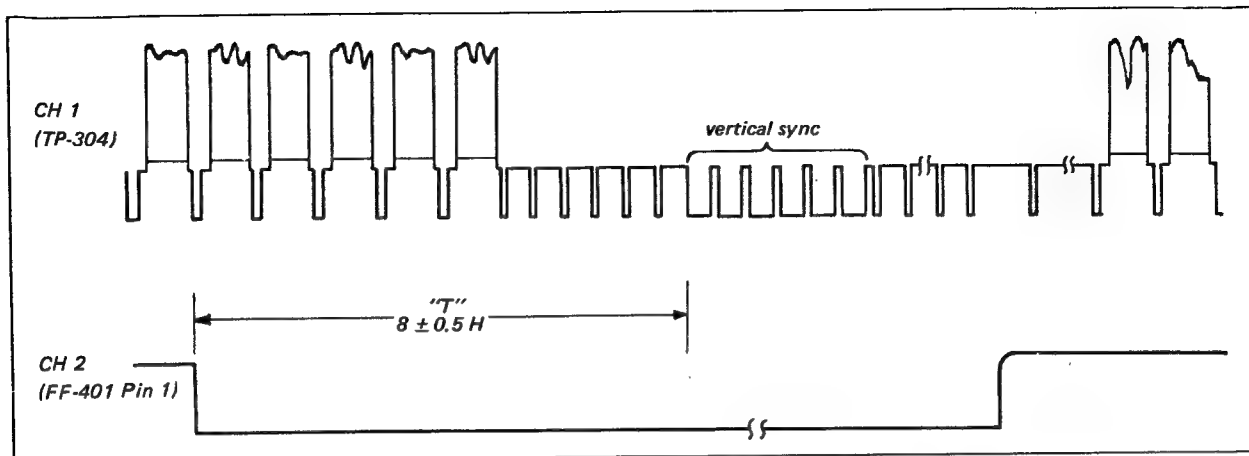

Fig. 6-7. 30 PG coil position
See Fig. 6-7
4. Pull out the 5X magnifier and adjust the POSITION control to observe the second vertical blanking interval as shown in Fig. 6-7.
5. Check that the interval "T" shown in Fig. 6-7 is $8 \pm 0.5 H$ (horizontal lines).
reposition the coil. If "T" in Fig. 6-7 is more than $8 \pm 0.5 H$, move the coil slightly to the left (in the direction of scanner rotation). If "T" is less than $8 \pm 0.5 H$, move the coil to the right. Be very careful when adjusting coil position. Make sure that the gap between the coil poles and the rotating pole piece remains the same. Also, make sure that the coil poles and the rotating pole pieces line up when viewed from above.